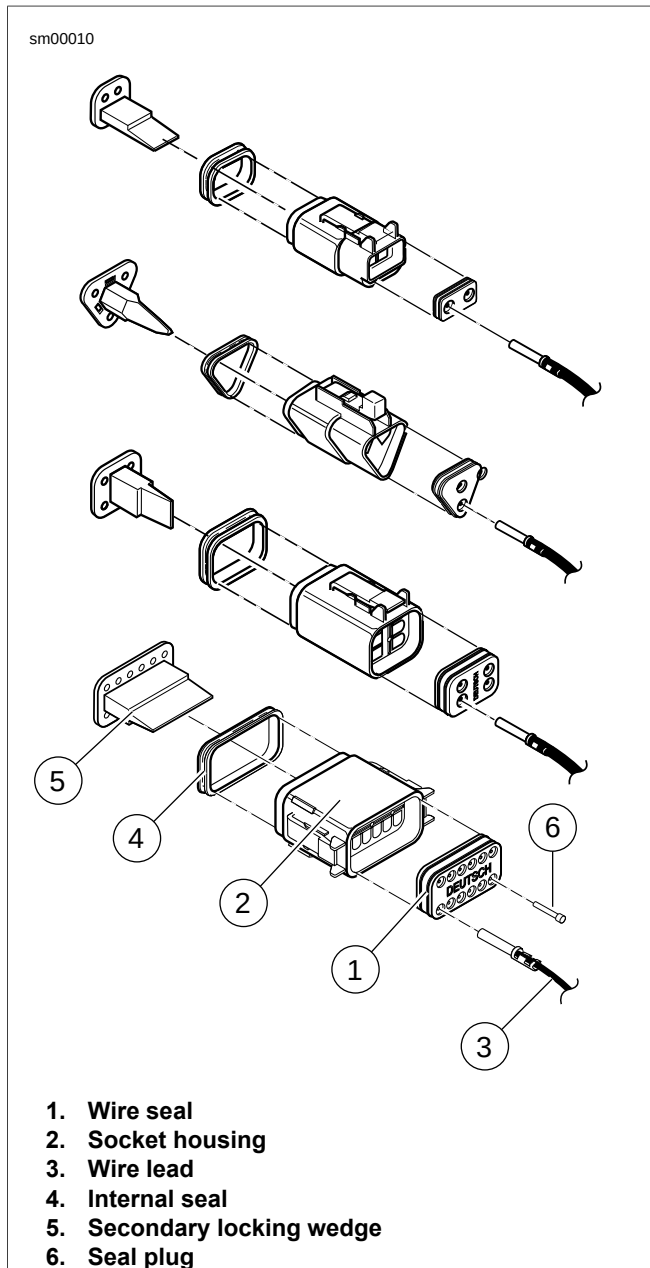

Figure A-32. Deutsch DT Sealed Connector: 2, 3, 4 and 12-Place Socket Housings
2. See Figure A-32. Fit rear wire seal (1) into back of socket housing (2), if removed.
3. Grasp wire lead (3) approximately 25.4 mm (1.0 in) behind the socket terminal. Gently push socket through hole in wire seal into its chambers until it clicks in place.